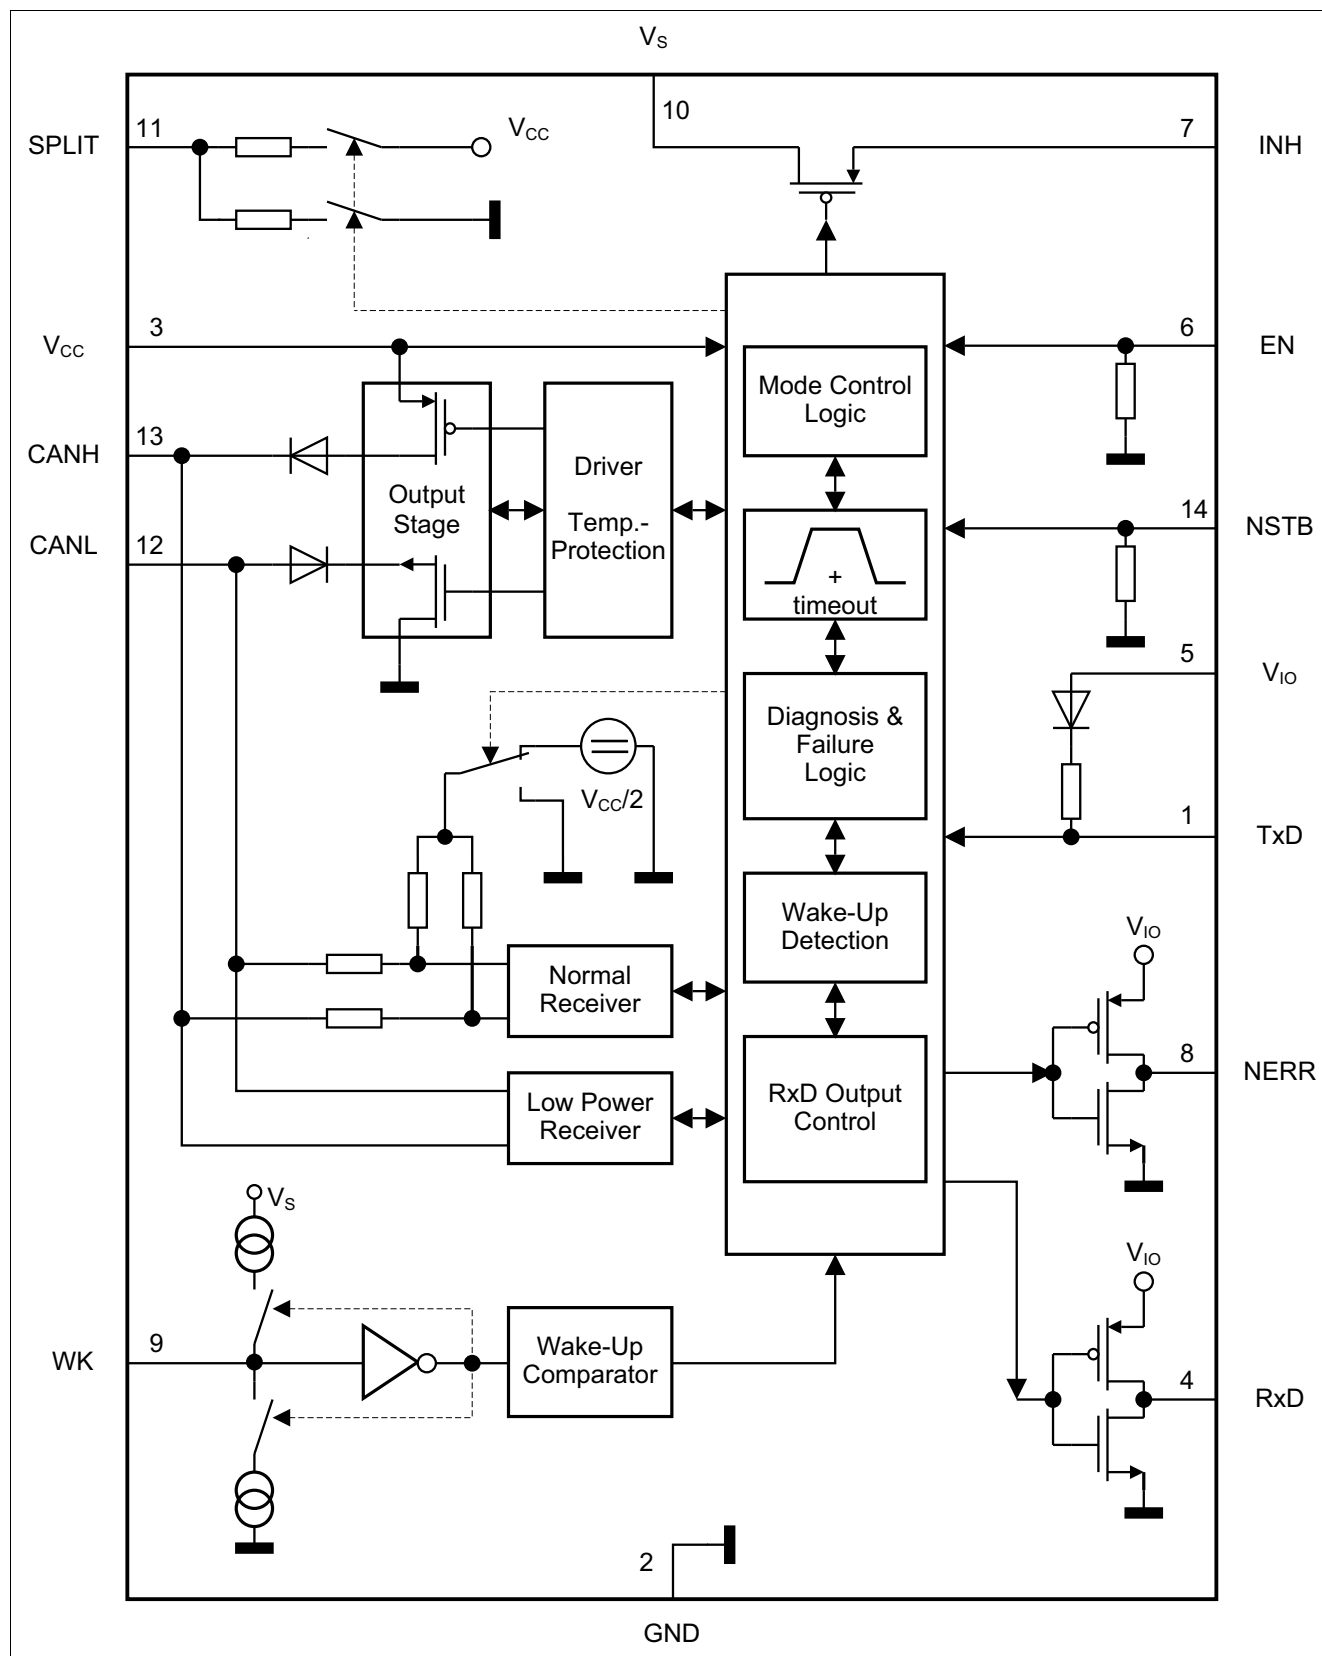
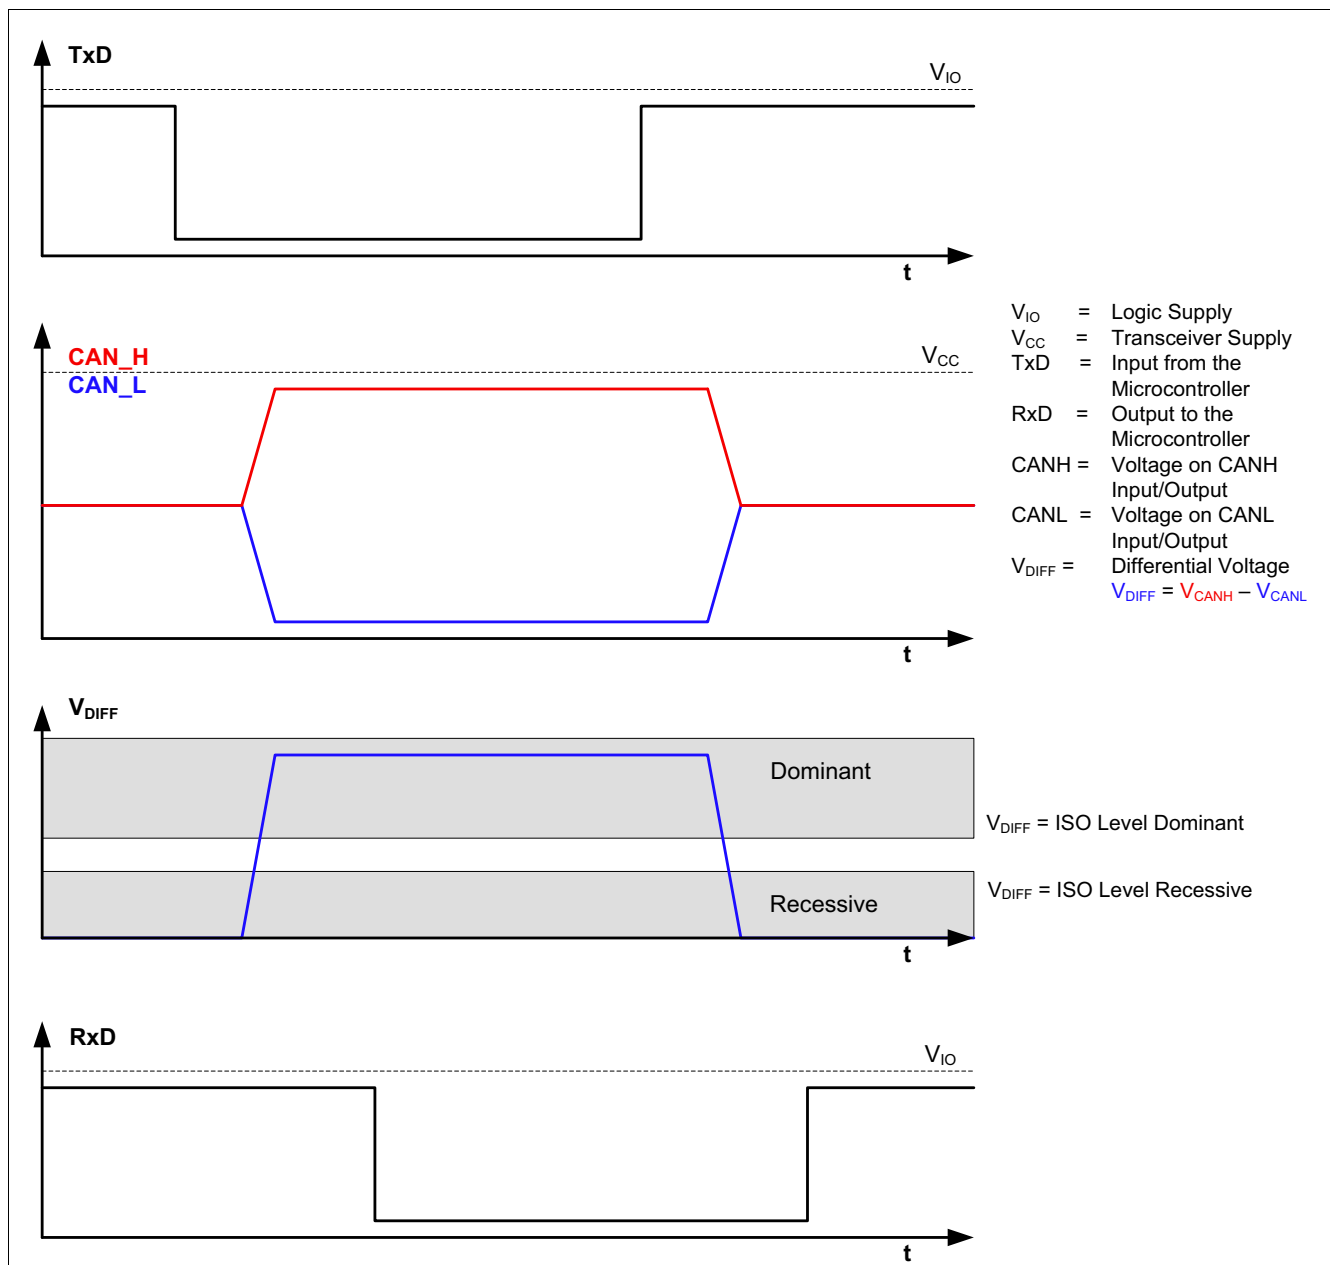

Figure 1 Block Diagram
Figure 3 High Speed CAN Bus Signals and Logic Signals
The TLE6251-2G is a High Speed CAN transceiver, operating as an interface between the CAN controller and the physical bus medium. A High Speed CAN network (abbreviated HS CAN) is a two wire differential network which allows data transmission rates up to 1 MBaud. Characteristic for a HS CAN network are the two CAN bus states dominant and recessive (see Figure 3).
The input TxD and the output RxD are connected to the microcontroller of the ECU. As shown in Figure 1, the HS CAN transceiver TLE6251-2G has a receive unit and a output stage, allowing the transceiver to send data to the bus medium and monitor the data from the bus medium at the same time. The HS CAN TLE6251-2G converts the serial data stream available on the transmit data input TxD into a differential output signal on CAN bus. The differential output signal is provided by the pins CANH and CANL. The receiver stage of the TLE6251-2G monitors the data on the CAN bus and converts them to a serial data stream on the RxD pin. A “low” signal on the TxD pin creates a dominant signal on the CAN bus, followed by a “low” signal on the RxD pin (see Figure 3). The feature, broadcasting data to the CAN bus and listening to the data traffic on the CAN bus simultaneously is essential to support the bit to bit arbitration on CAN networks.
- Through the internal resistors R_I (see Figure 1), the pins CANH and CANL are connected to GND.